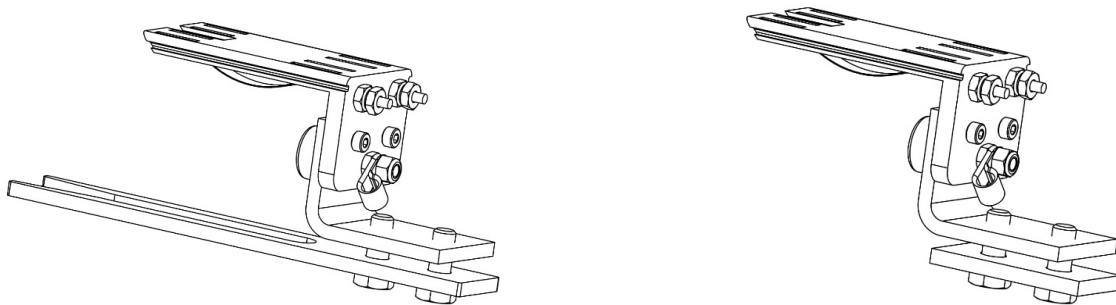

Figure 24: **Configuration for Ceiling Lift Charging Contact (Left) and Configuration for Gantry Charging Contact (Right)**
8. On the charger endstop assembly of the parallel track, exchange the finger guard with the track endstop plate supplied with the X/Y Gantry Trolley (Figure 24).